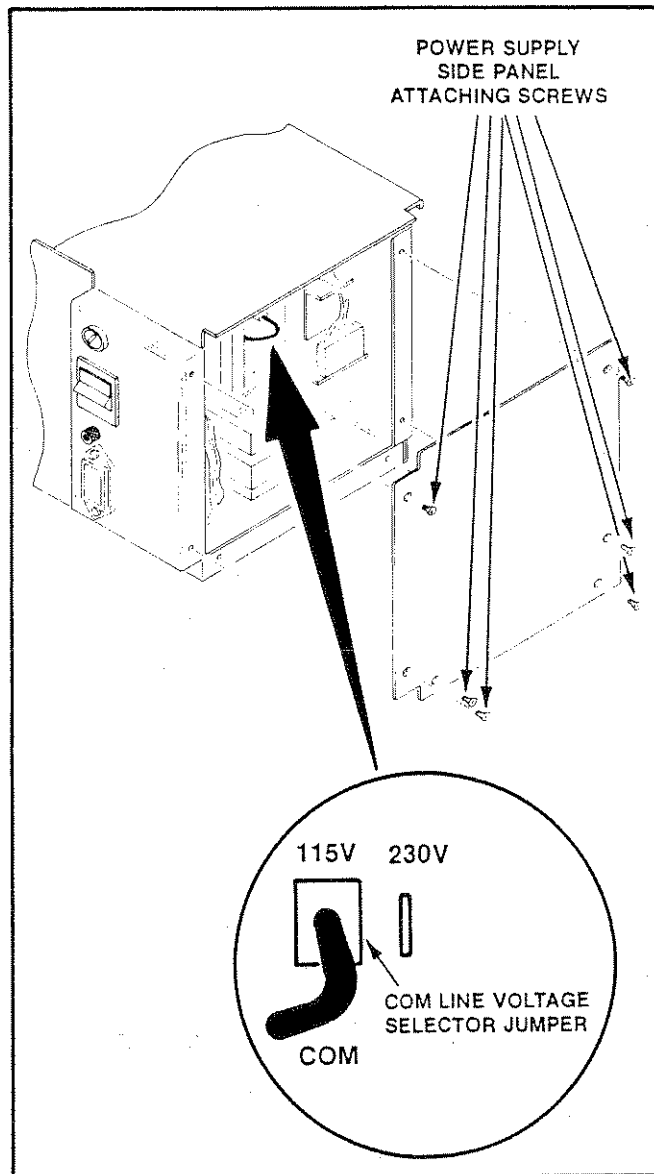

Fig. D-4. Power supply side panel and line voltage selector.
3. Remove the six (6) attaching screws from the power supply side panel adjacent to the power cord receptacle, power switch, etc. (Fig. D-4).
4. Move the COM line voltage selector jumper to the desired line voltage (115 V or 230 V) selector lug (Fig. D-4).